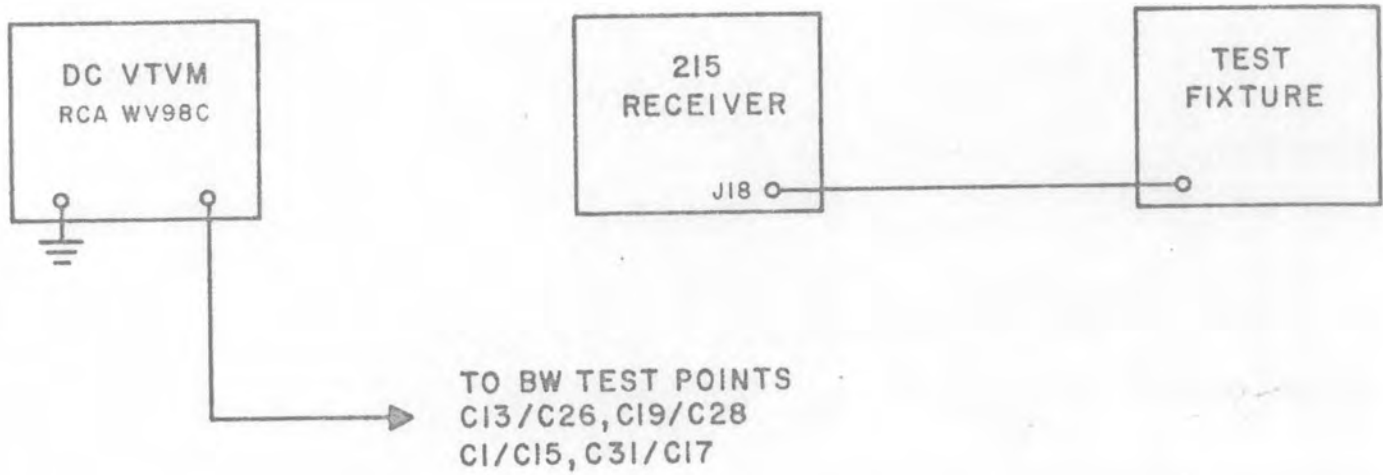

Figure 4-5. Test Setup, Remote IF Bandwidth Select Check
- (1) Interconnect the equipment as shown in Figure 4-5.
- (2) Set the receiver operating mode to Remote.
- (3) Set the test fixture Bandwidth select switch to BW1.
- (4) Measure the voltage at the following points on the IF Amplifier Assembly A4, switching IF bandwidths as required.